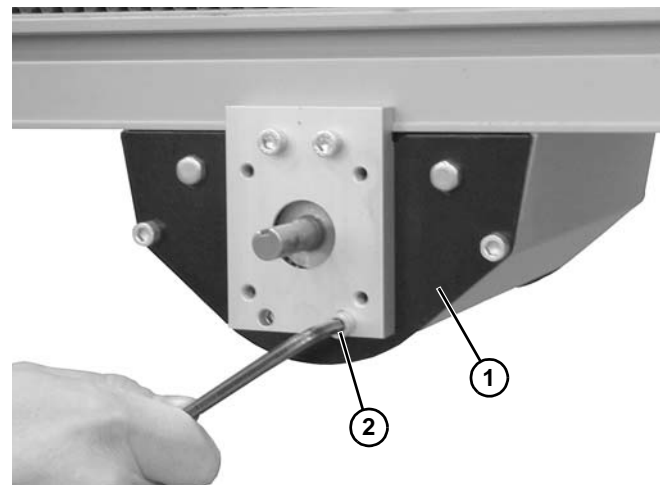

Figure 91
10. Secure mid drive assembly (Figure 91, item 1) with screw (Figure 91, item 2) on each side of assembly. Tighten screw to 60 in-lb (7 Nm).